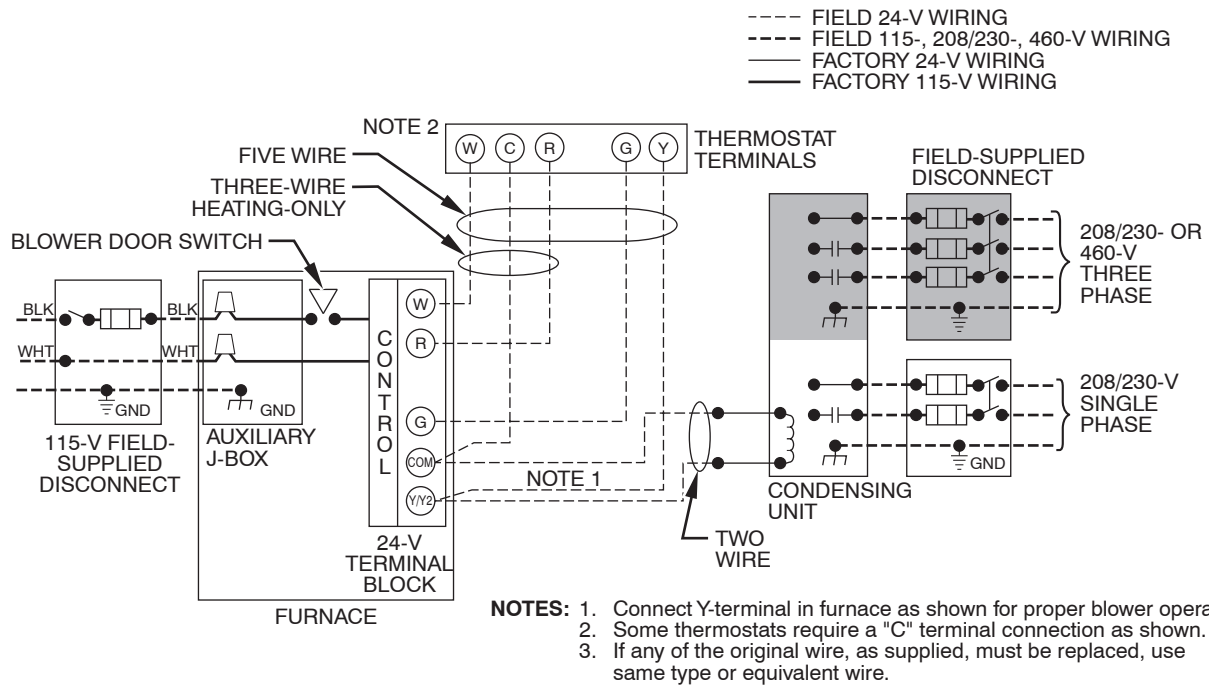

Fig. 25 - Heating and Cooling Application Wiring Diagram with 1-Stage Thermostat
See Fig. 25 for field wiring diagram showing typical field 115-v wiring. Check all factory and field electrical connections for tightness.
12. Complete electrical box wiring and installation. Connect line voltage leads as shown in Fig. 25. Use best practices (NEC in U.S. for wire bushings, strain relief, etc).
5. Connect line voltage leads as shown in Fig. 25.
5. Connect line voltage leads as shown in Fig. 25 .